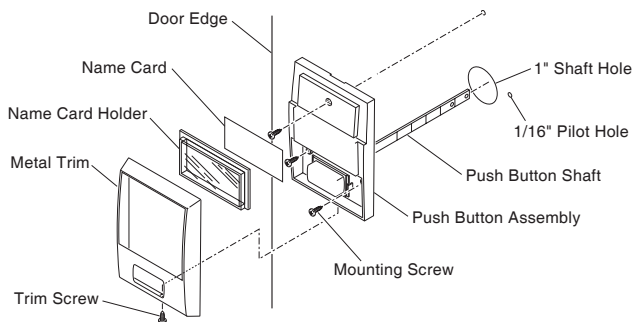

Figure 1 - Attaching Push Button Assembly to Door
2. Using the template provided, mark the location of the mounting holes parallel to the edge of the door (see Figure 1). Note: It is important that the holes are parallel to the edge of the door for proper operation of the chime.
See Figure 1 for push button assembly. Note: If push button assembly is located in an area that is exposed to rain, caulk around the 1" holes before attaching push button to door.
1. Remove metal trim screw, metal trim, name card holder, and name card from push button assembly to locate mounting holes (see Figure 1).
2. Insert push button shaft into pre-drilled until push button assembly is flush against door face. Attach using the three mounting screws provided (see Figure 1).
4. Place metal trim over push button assembly and name card holder. Secure trim with trim screw (see Figure 1).